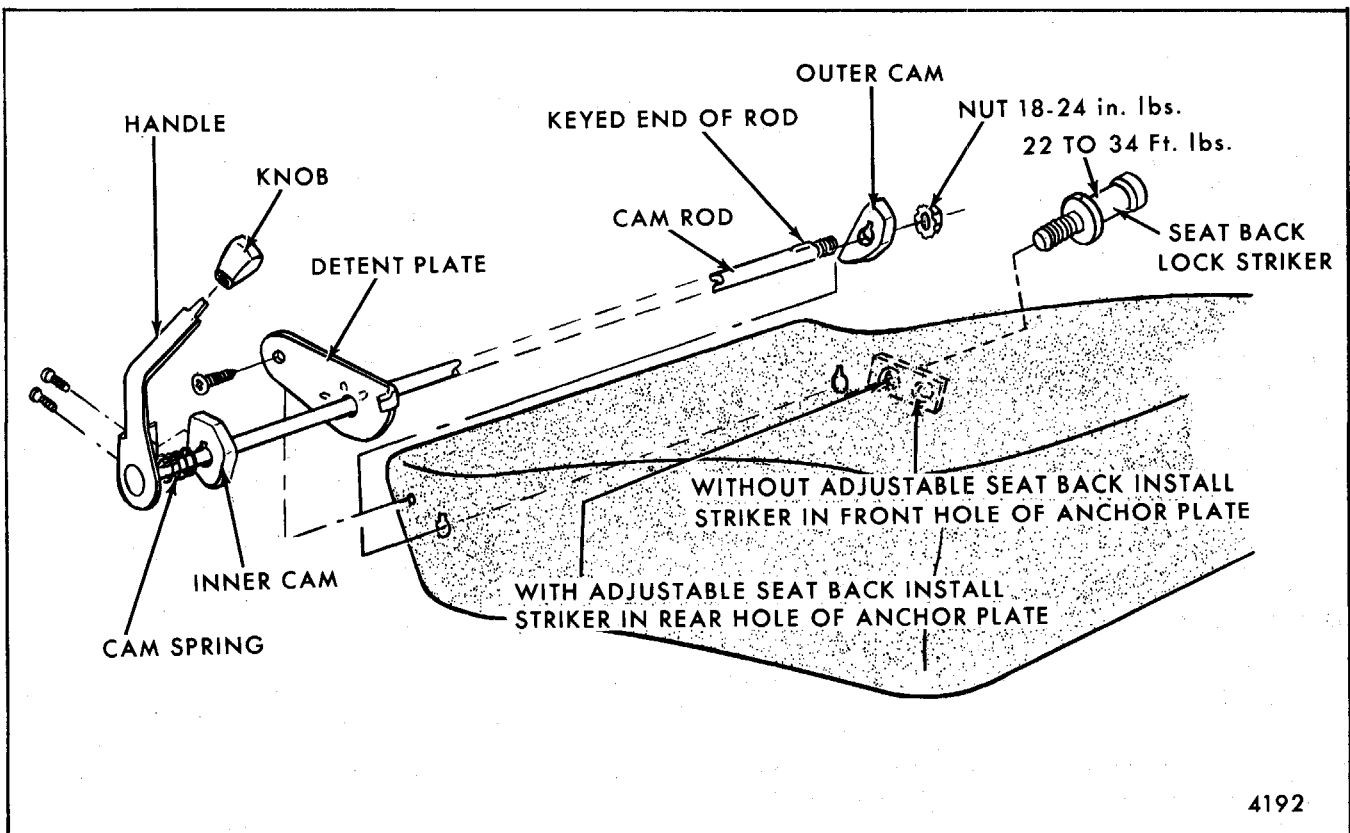
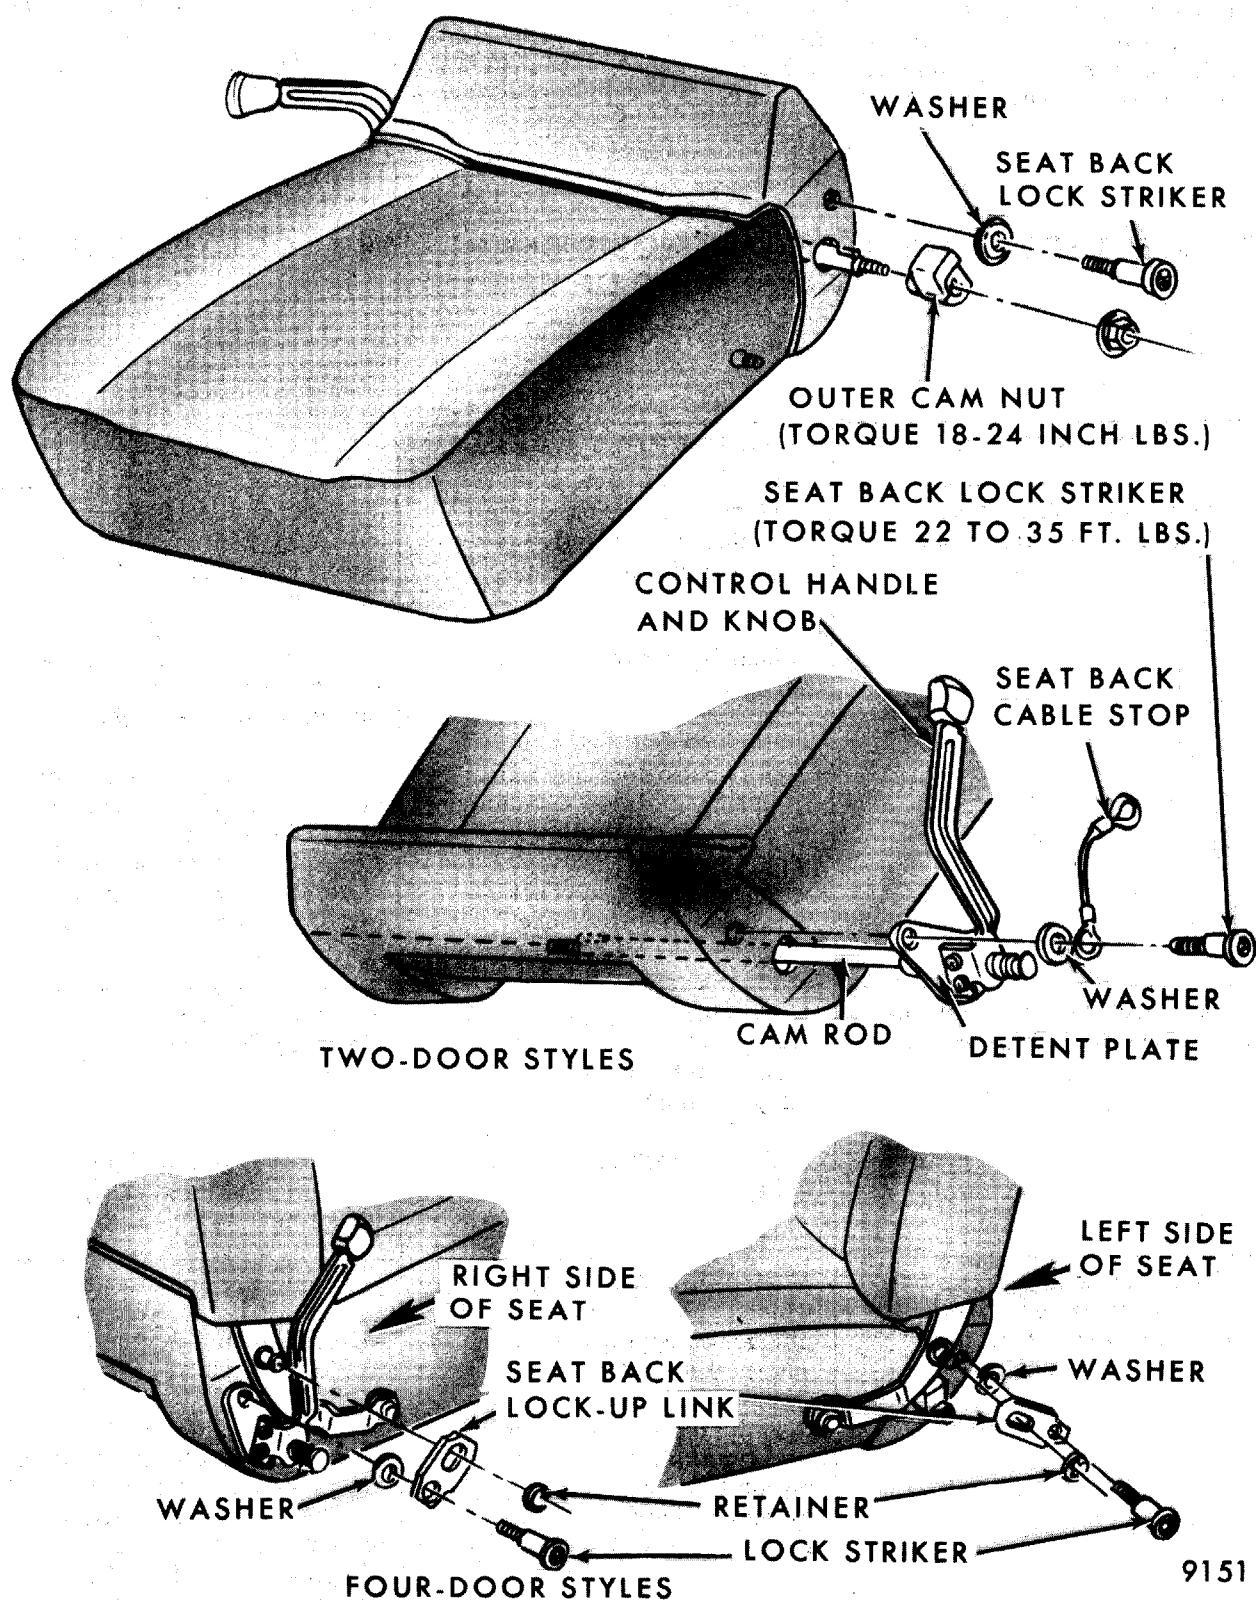

Fig. 9-50-Adjustable Driver's Seat Back Handle, Cams, Cam Rod, Detent Plate and Spring Removal and Installation from Seat Cushion - Chevrolet "F and H" Styles
Fig. 9-51-Adjustable Front Seat Back Assembly (Driver's Side Only) - Chevrolet "X" Coupes and Sedans
Refer to Figure 9-50 for "F and H" styles or Figure 9-51 for "X" styles.
2. At left side of seat, remove nut securing outer cam to cam rod (see Fig. 9-50) and remove cam from rod.
3. To remove cam rod, pull rod out of seat cushion from right side of seat (see Fig. 9-50).